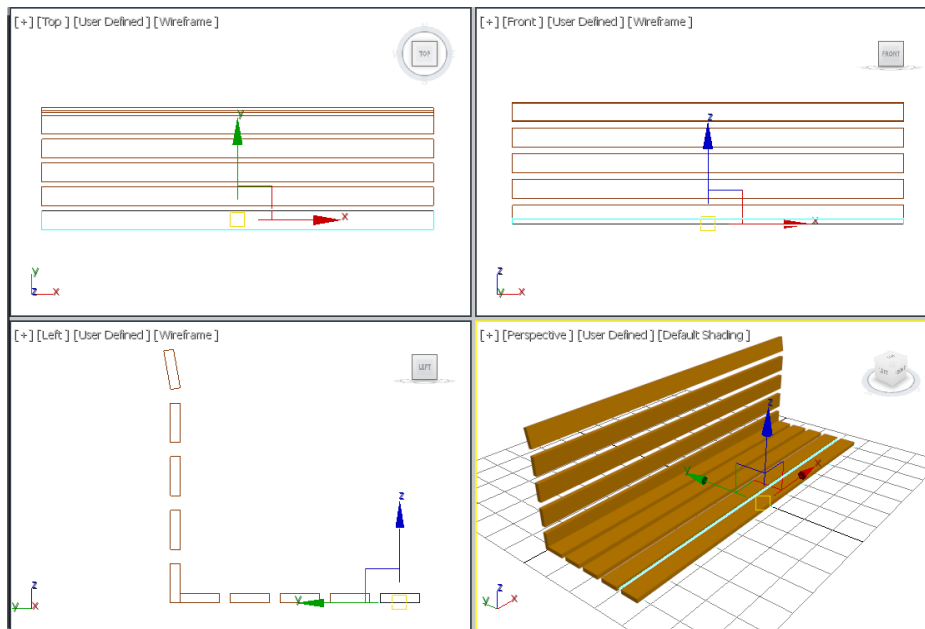

Figure 2-75 Horizontal seat supports displayed in the viewports
9. Choose the **Zoom Extents All** tool; all the objects are displayed in the viewports, as shown in Figure 2-75.